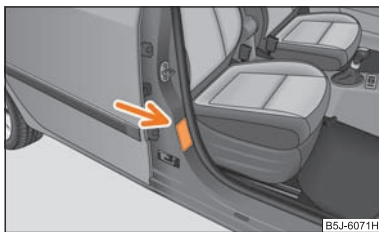

Fig. 122 Sticker on the centre column of the body on the front passenger side.
- This is also clearly stated on the sticker which is located on the centre column of the body on the front passenger side ⇒ **fig. 122**. The sticker is visible upon opening the front passenger door. For some countries, the sticker is also affixed to the sun visor of the front passenger.